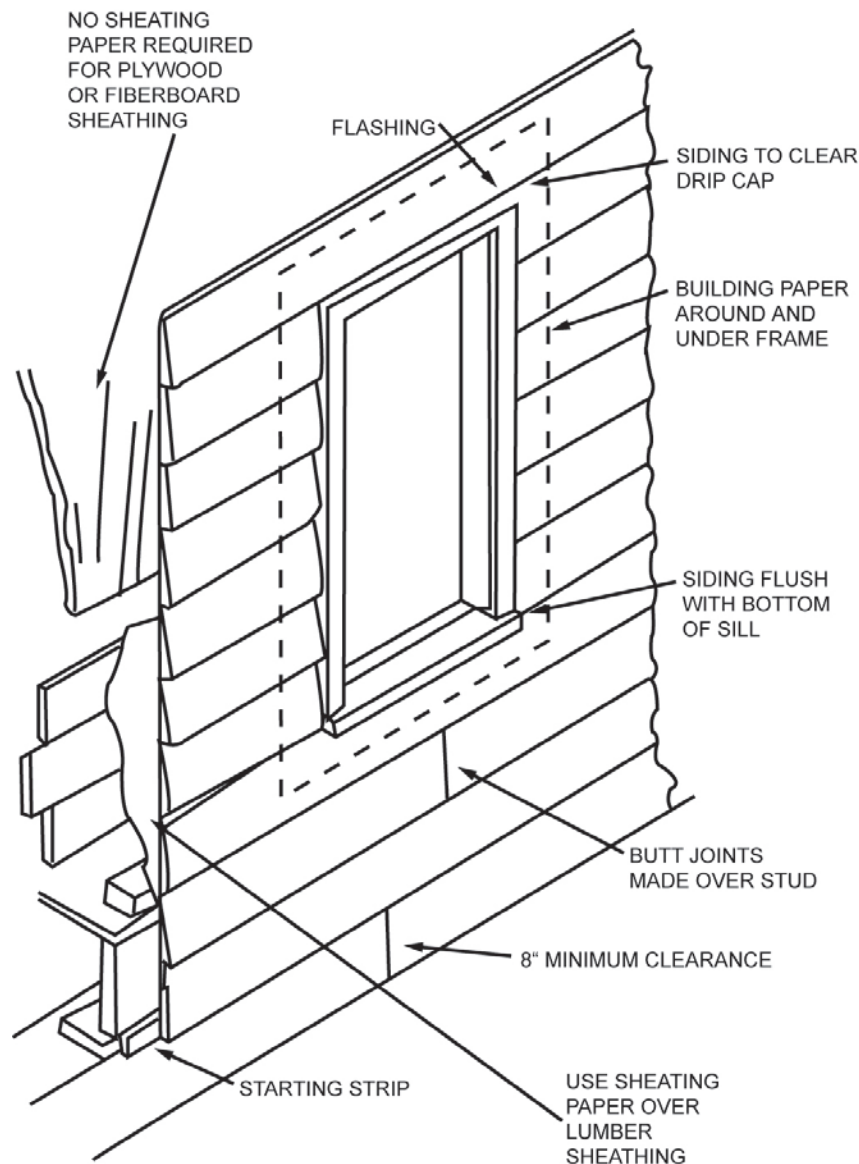

Figure 3-5. Installation of bevel siding.
The minimum lap for bevel siding is 1 inch. The distance from the underside of the windowsill to the top of the drip cap usually determines the average exposure distance (fig. 3-5). From the standpoint of weather resistance and appearance, the butt edge of the first course of siding above the window should coincide with the top of the window drip cap. In many one story structures with an overhang, this course of siding is often replaced with a frieze board. It is also desirable that the bottom of a siding course be flush with the underside of the windowsill. However, this may not always be possible because of varying window heights and types that might be used in a structure.
2. Determine the exposure distance from the bottom of the sill to just below the top of the foundation wall. If this distance is 31 inches, follow the same formula as we mentioned above. Thus, you would use three courses of  $10 \frac{5}{16}$  inches each—the exposure distance above and below the window would be almost the same (fig. 3-5).